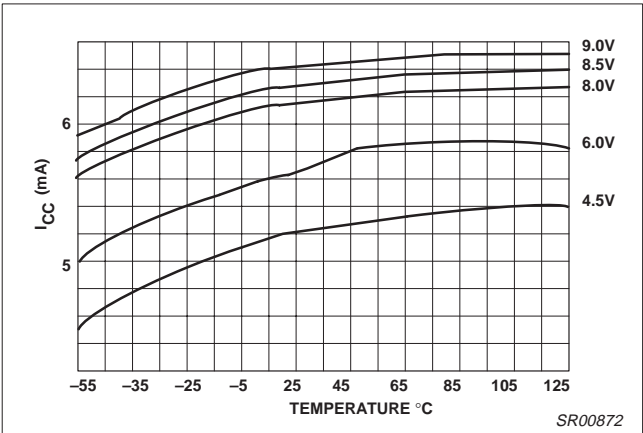
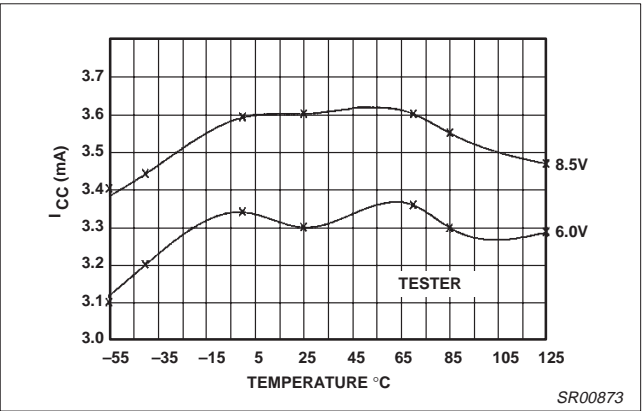

Figure 33. SA605 I_{CC} vs Temperature
Figure 34. SA604A I_{CC} vs Temperature
A. The SA605 consumes about 5.6mA of current at 6V. This level is slightly temperature and voltage dependent as shown in Figure 33. Similar data for the SA604A is shown in Figure 34.